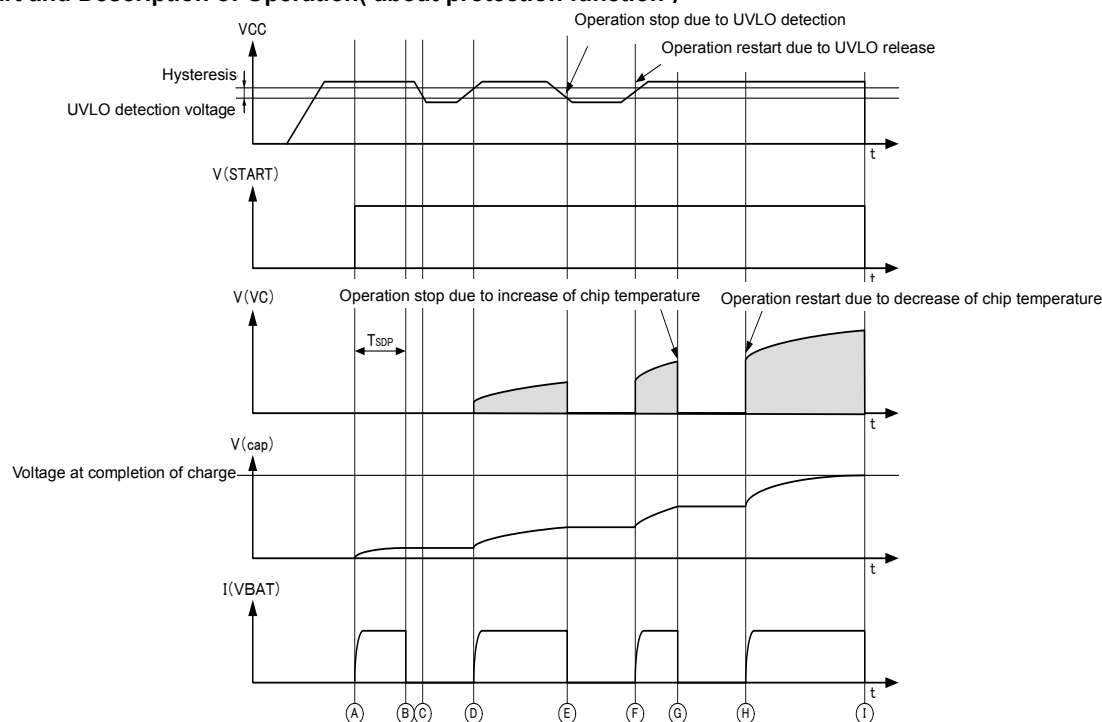

Fig 35 Timing Chart 3: Under Protective Circuit Operation
- ③ The protective circuit is activated (See Fig 35 and the Protective Circuit.).
If the VCC voltage is reduced to the UVLO detection voltage specified in the electrical characteristics or less, the UVLO protective circuit is activated and the charging operation temporarily stops. (See Time ㉔ and ㉕ in Fig 35.) After that, when the VCC voltage becomes the UVLO release voltage or more, the charging operation automatically restarts. (See Time ㉖ and ㉗ in Fig 35.)
It protects the IC against thermal runaway due to excessive temperature rise ( $T_j > 175^\circ\text{C}$  [TYP]). After detection, the charging operation temporarily stops (See time ㉘ in Fig 35.), and when the chip temperature decreases, ( $T_j < 150^\circ\text{C}$  [TYP]), it automatically restarts. (See Time ㉙ in Fig 35.)
If the VC pin becomes the GND level due to any failure and the PowerTr repeats switching  $2^{16}$  (=65536) times which is the SDP count number (TSDP) at the maximum OFF time, it is judged as an error and the charging operation is forced to be stopped. (See Time ㉚ in Fig 35.) If the START pin is changed from "L" to "H" and the UVLO detection is released, it restarts.